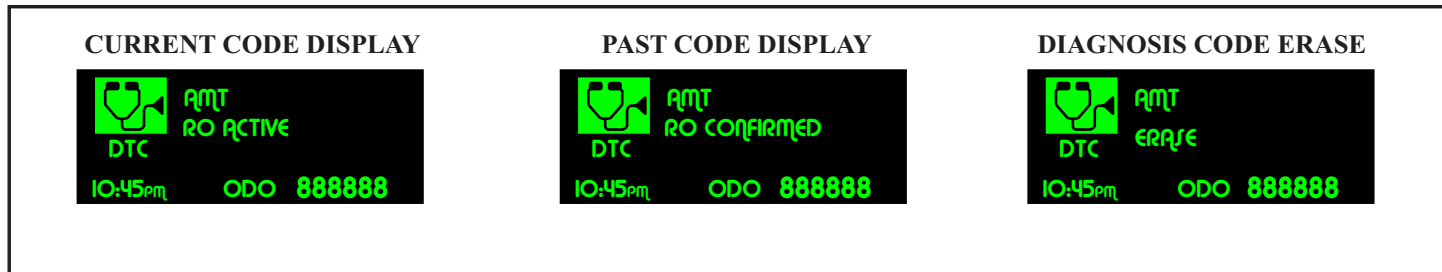

Figure 5
- Press the SET/RES switch to enter one of the following modes, see figure 5: